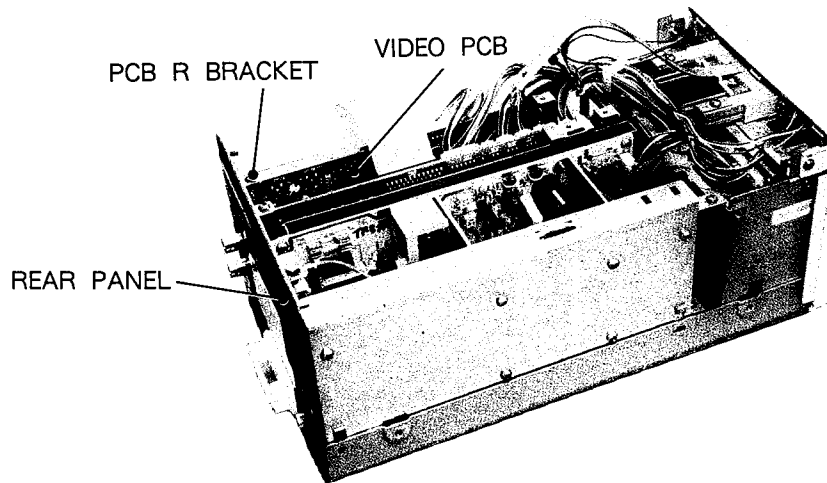

Fig. 5
3. Remove the REAR PANEL. (Fig. 5)
4. Remove the screw securing the PCB R BRACKET. (Fig. 5)